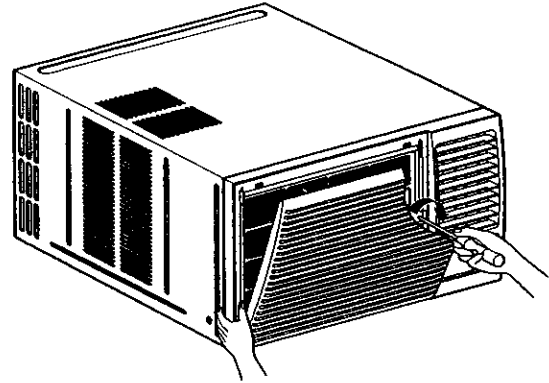

Figure 57
4. Remove the front grille. (See Figure 57)